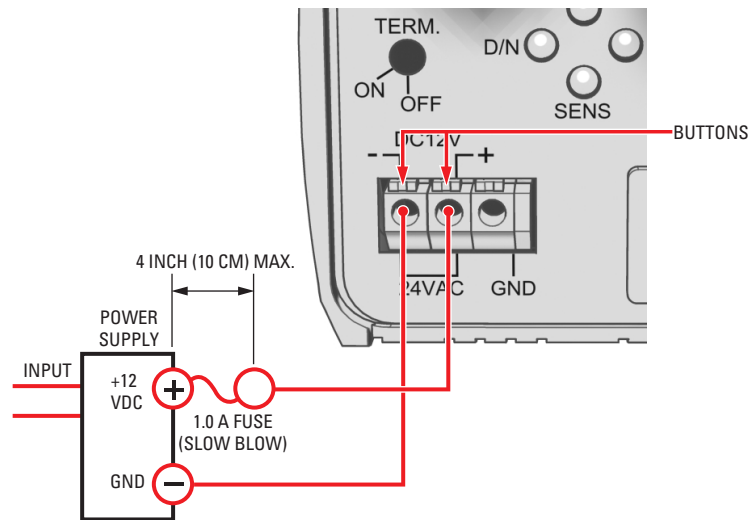

Figure 5. Connecting DC Power
- For safety, include a 1.0 A slow blow fuse when connecting DC power, as shown in Figure 5.